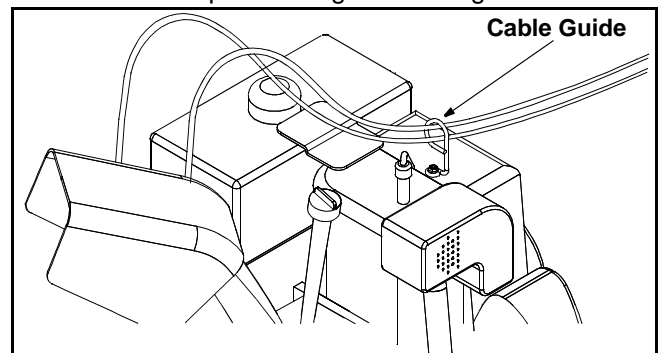

Figure 4
- If not already attached, slip the cables that run from the handle panel to the chute into the cable guide located on top of the engine. See Figure 4.